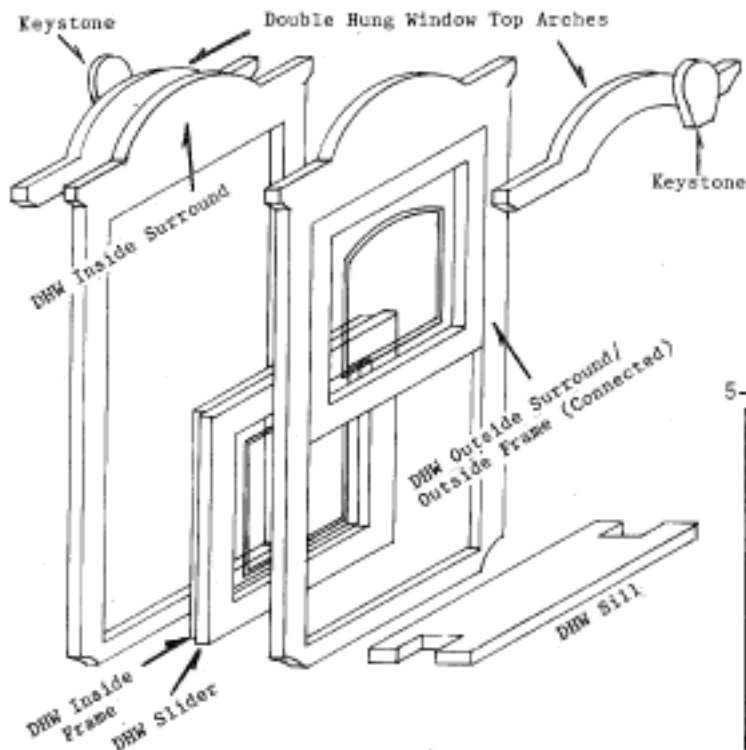

Figure 17
5. Dry fit double hung windows into the walls to be sure of proper operation. See Figure 17. To do this, tape the outside window surround centered on the outside of the window opening in the wall. From the inside, insert the slider assembly into the wall opening with the inside frame to the inside. Tape the inside window surround centered on the inside of the window opening in the wall. Raise the slider up and insert the sill diagonally and slide down. This process will tell you if you need to sand excess paint or burrs from the slider or surrounds for proper operation. Figure 17.